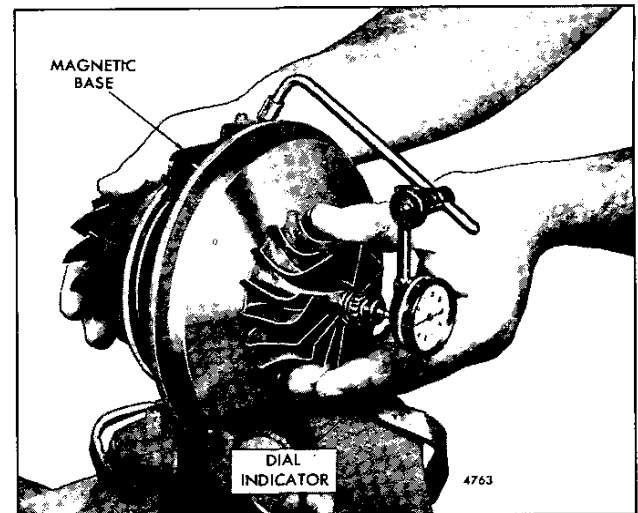
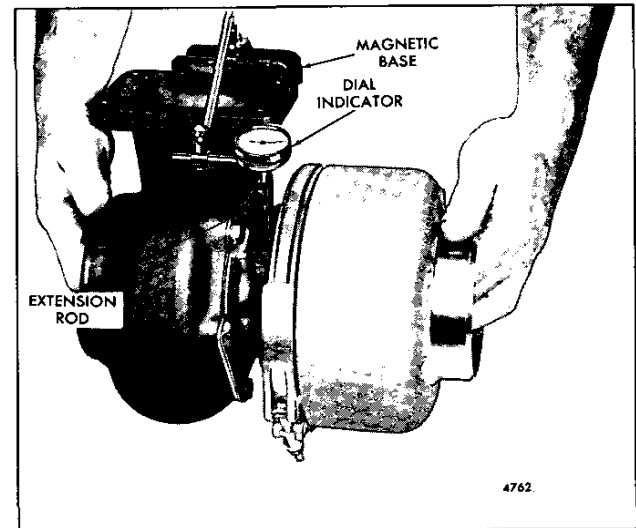

Fig. 9 – Checking Bearing Axial End Play
Fig. 10 – Checking Shaft Radial Movement
- a. Clamp the center housing assembly in a bench vise equipped with soft jaws as shown in Fig. 9.
16. Position the turbine housing (6) as marked at disassembly against the center housing (26) and secure it in place with four clamps (5), four lockplates (4) and eight bolts (3). Tighten the bolts to 160–190 **lb-in** (18–22 N·m) torque. Bend the lockplate tabs up against the flat on the bolt heads.
17. Position the compressor housing (2) against the backplate assembly (14) and secure it in place with the "V" band coupling (1). Lightly lubricate the threads of the toggle bolt with engine oil and tighten the nut on the coupling to 30–45 **lb-in** (3–5 N·m) torque.
- a. Position the magnetic base J 7872–2 with the swivel adaptor J 7872–3 on the flat surface of the turbine housing inlet flange as shown in Fig. 10.